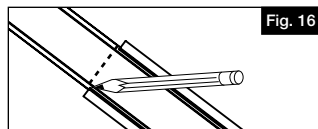

Fig. 16
- Once length is determined, mark brace in center with pencil line (Fig. 16).